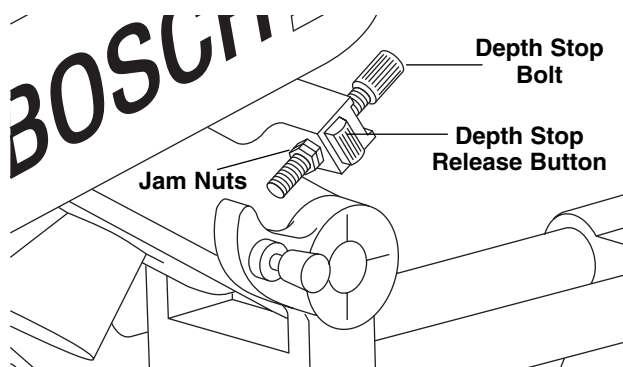

Figure 13. Depth Adjustment
1. Loosen and turn both Jam Nuts to just above the threaded end of the Depth Stop Bolt (Figure 13).
2. Press Depth Stop Release Button and pull up Depth Stop Bolt until nuts hit the bottom of its support frame (Figure 13).